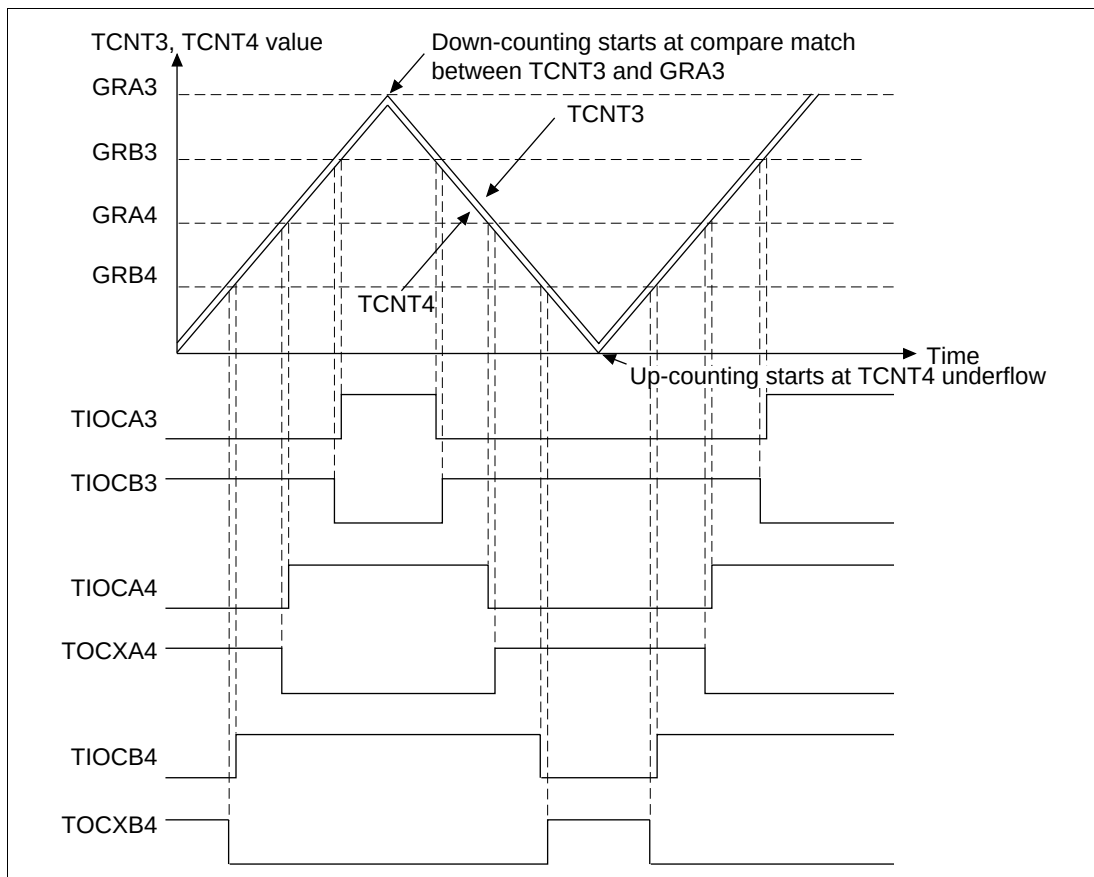

**Figure 10.34 Complementary PWM Mode Operation Example 1**
**Complementary PWM Mode Operation:** Figure 10.34 shows an example of operation in complementary PWM mode. TCNT3 and TCNT4 operate as up/down-counters, counting down from compare match of TCNT3 and GRA3 and counting up when TCNT4 underflows. PWM waveforms are output by repeated compare matches with GRB3, GRA4, and GRB4 in the sequence TCNT3, TCNT4, TCNT4, TCNT3 (in this mode, TCNT3 starts out at a higher value than TCNT4).